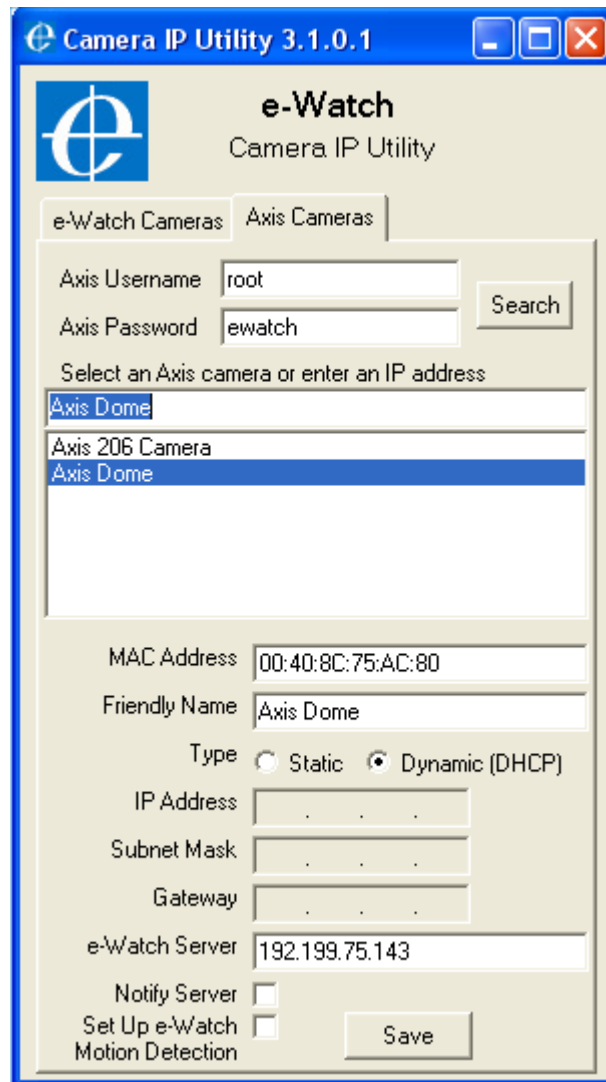

Figure 4-3. Restricting Axis Camera To One e-Watch Server
Perform these steps on the e-Watch Server console. See Figure 4-3.
- Figure 4-3. Restricting Axis Camera To One e-Watch Server 11